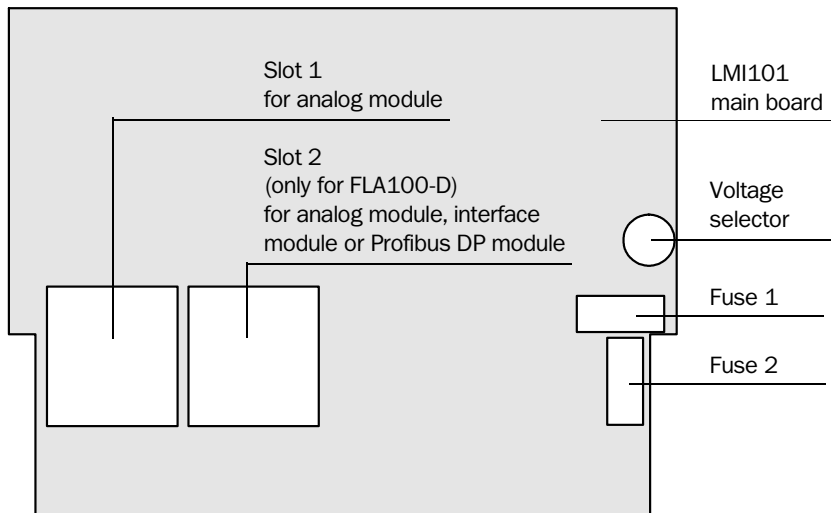

Fig. 3.9: Slots for optional modules
- ▶ Plug the module on to the corresponding socket (see **Fig. 3.9**), make sure all connectors are firmly seated.